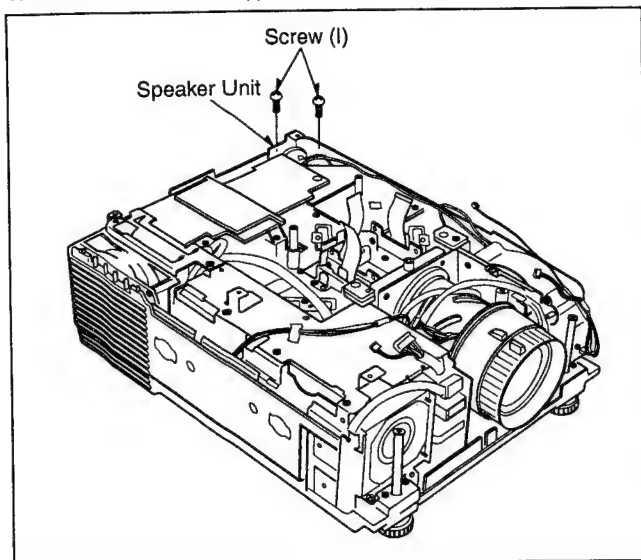

Fig. D9
1. Remove 2 screws (I) as shown in Fig. D9.